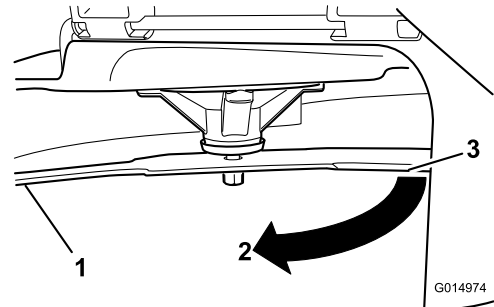

Figure 55
4. Rotate the same blade 180 degrees so that the opposing cutting edge is now in the same position (Figure 55).